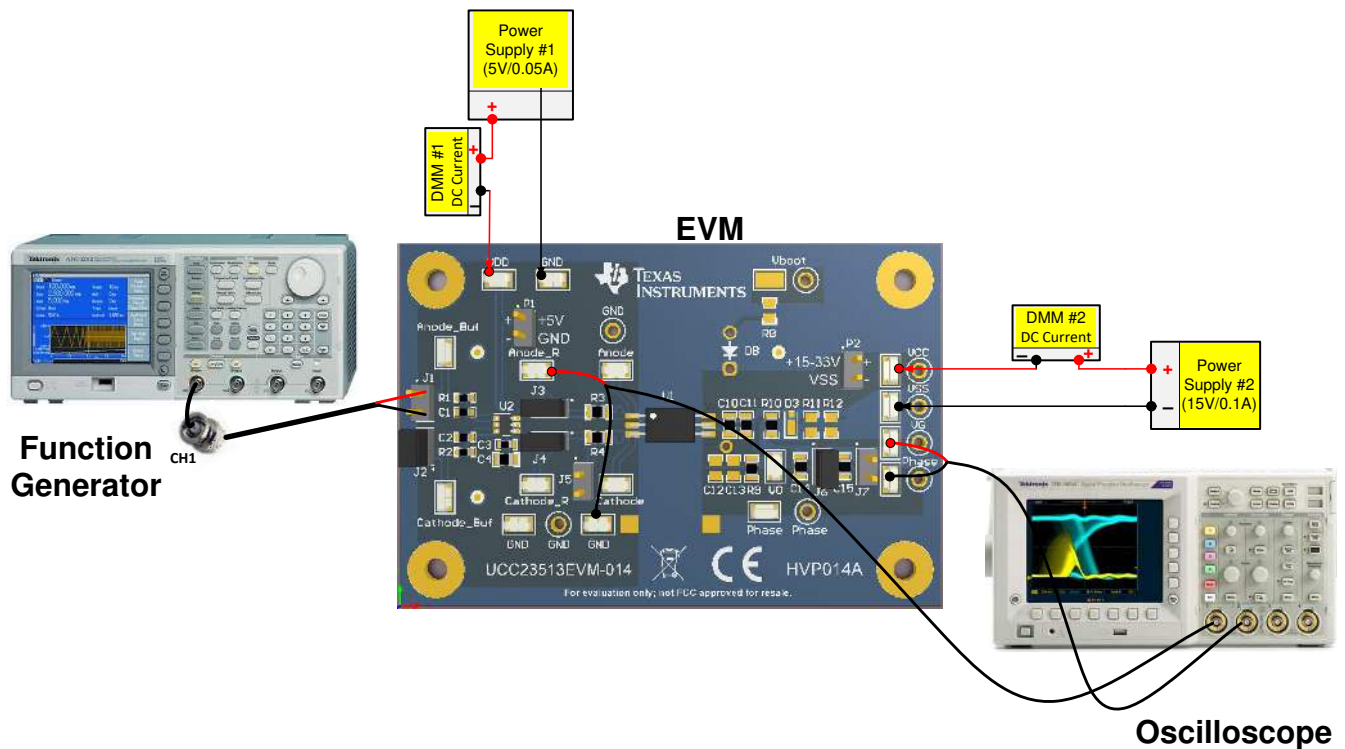

Figure 2. Bench Setup Diagram and Configuration
Follow the connection procedure below. Figure 2 can be used as a reference.
- Function generator channel applied on J1-1 \longleftrightarrow J1-2 (see in Figure 2)